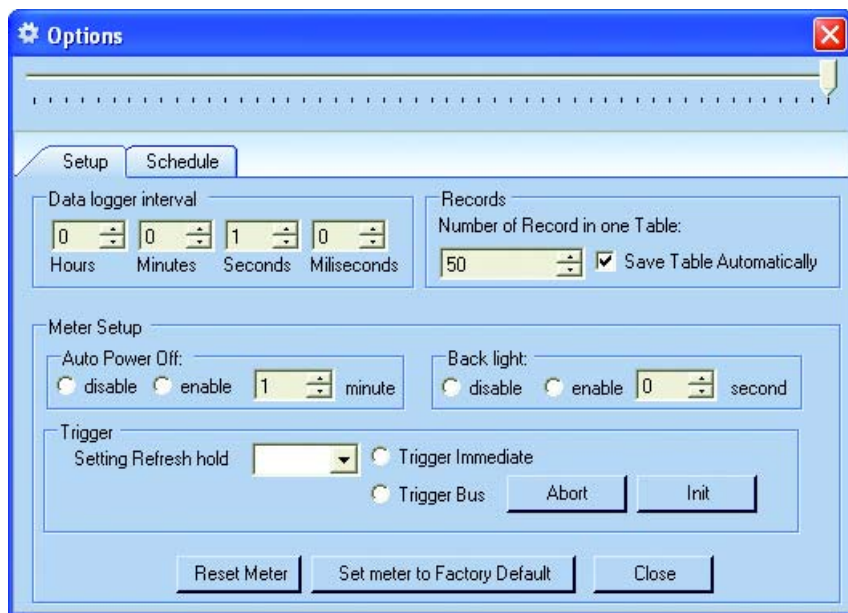

Figure 21 User setting **Setup** tab
- Setup (Figure 21)
- ✓ In **Setup** tab, there are three sections (Figure 21)